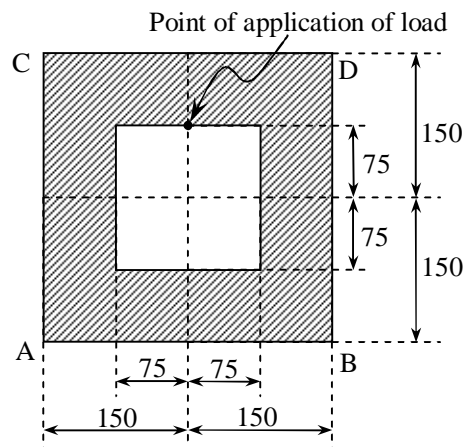

Fig. 7 [OR Q-5(b)]
- (b)** A short column has a square section $300\text{mm} \times 300\text{mm}$ with a square hole of $150 \text{ mm} \times 150 \text{ mm}$ as shown in **Fig. 7**. It carries an eccentric load of 1500kN, loaded as shown in figure. Determine the maximum and minimum stresses across the section. **07**